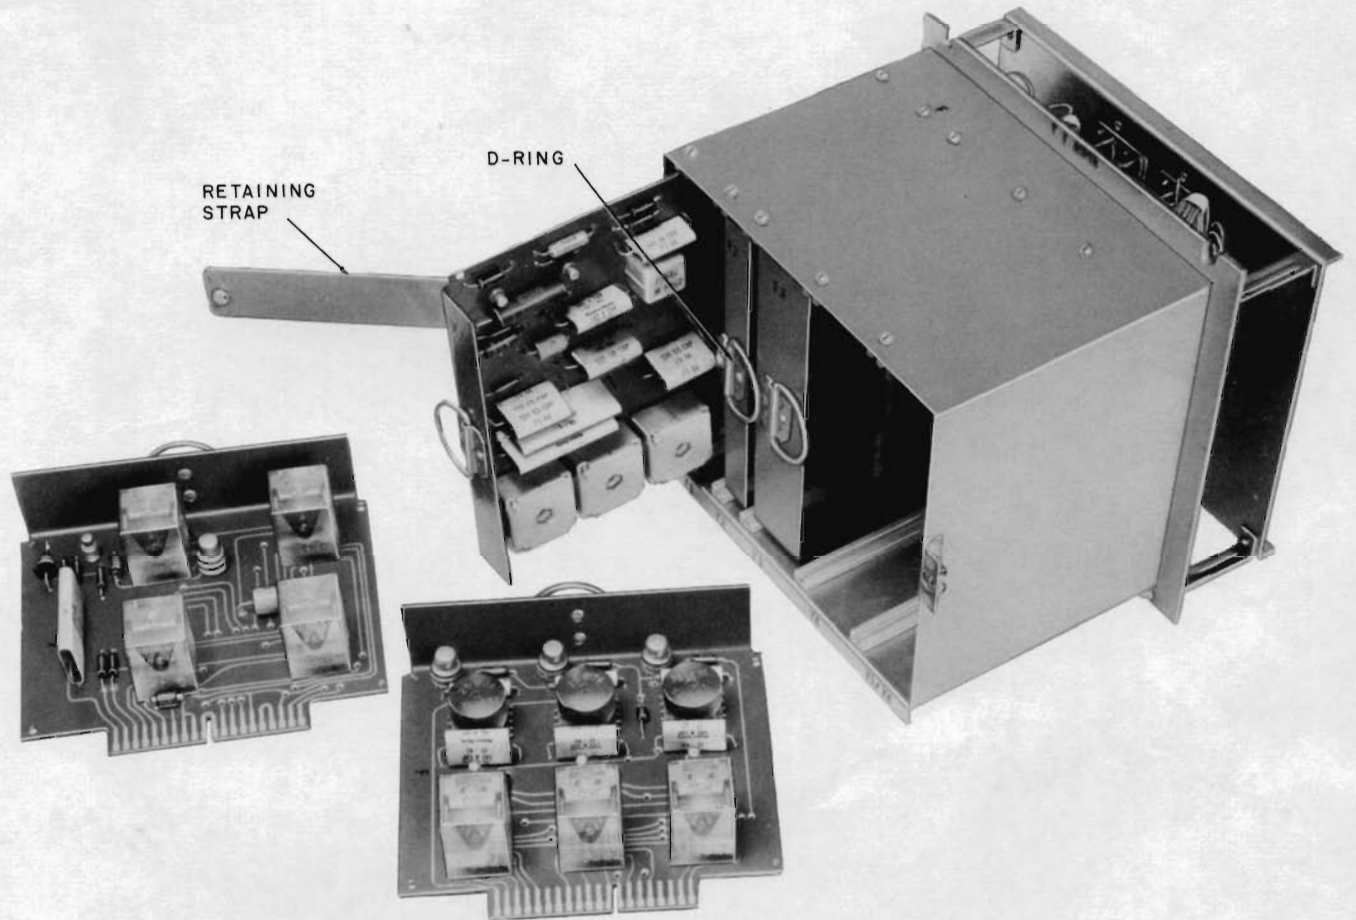

Fig. 11 — Circuit Pack Removal
5.02 To replace a circuit pack (Fig. 11) loosen and swing open retaining strap on the front of adapter. Grasp D-ring on front of circuit pack and pull straight out of the case. Align the replacement pack within top and bottom slides and push forward. Replace retaining strap.